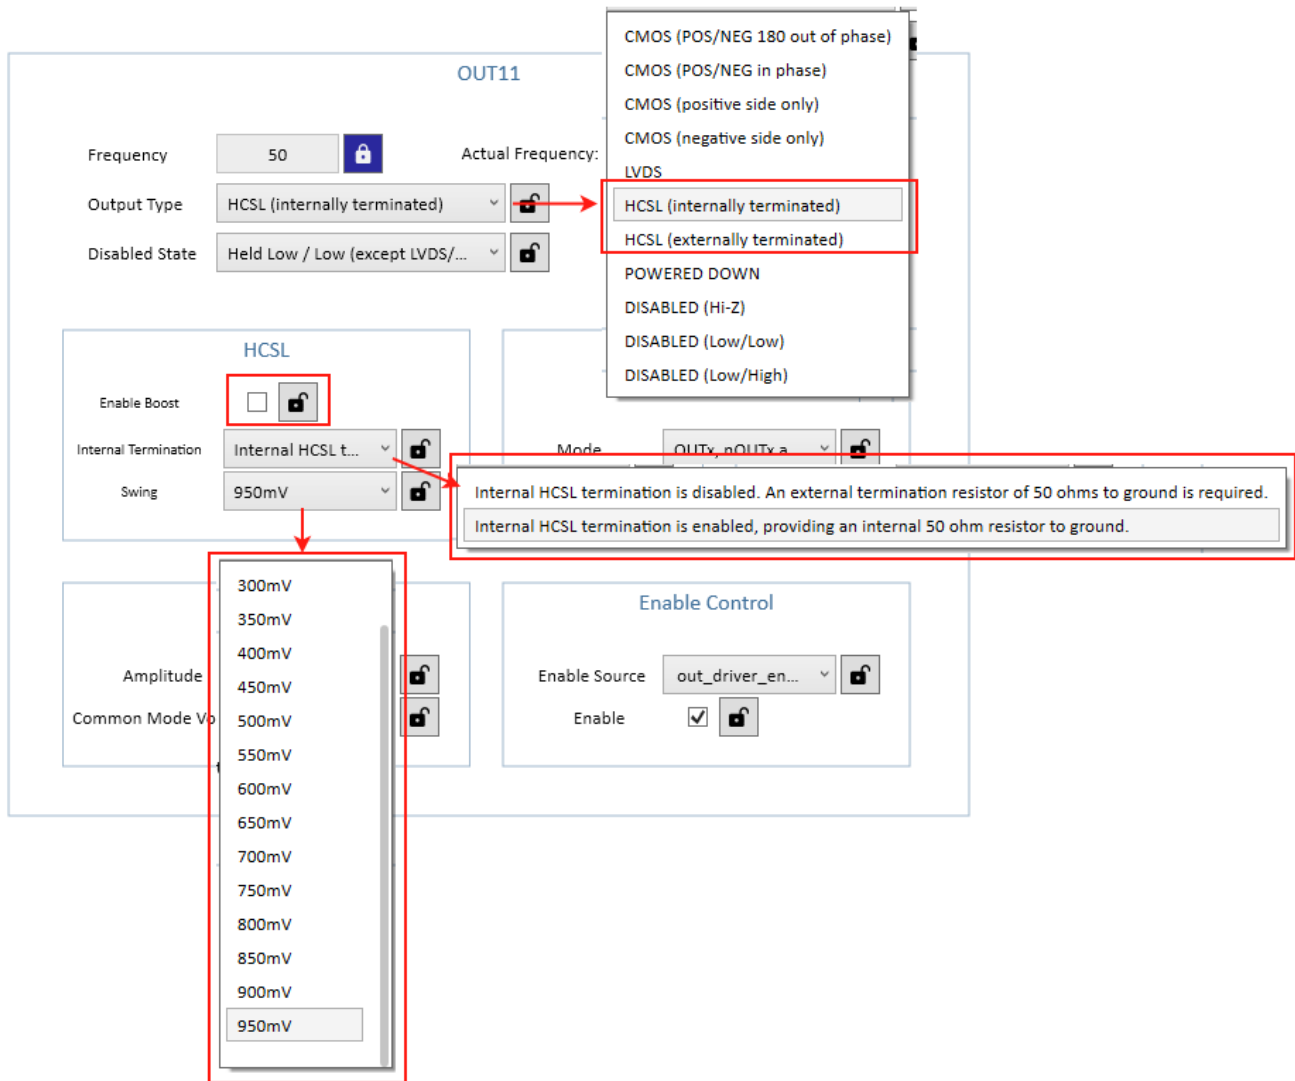

Figure 8. HCSL Internal Termination Setting in RICBox
3. **Enable Boost:** Enable/disable HCSL Boost. HCSL boost is only supported for Swing = 950mV (see Figure 8).